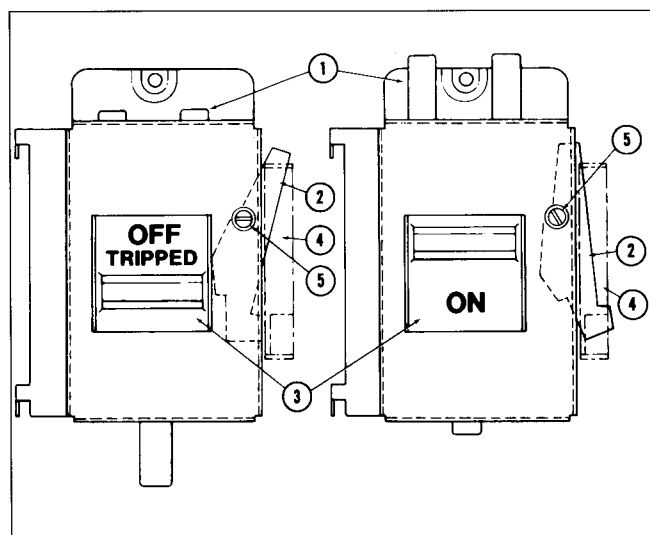
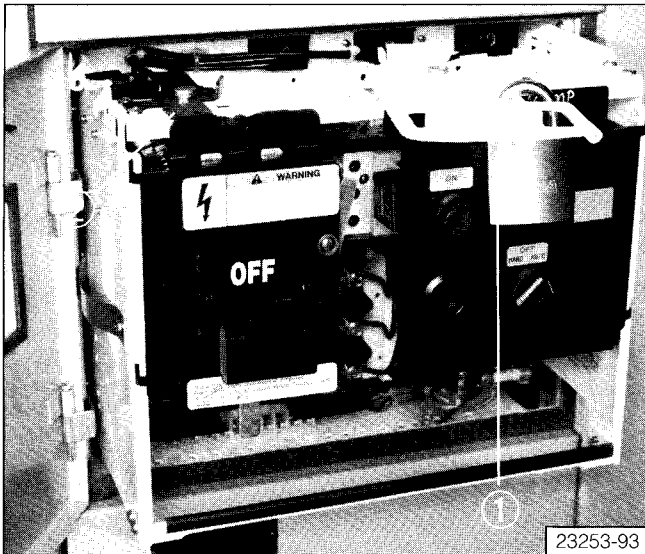

Figure 24: Linear Motion Operator Mechanism
Figure 25: Padlocking the Pan Brace Assembly
Operator mechanisms for circuit breakers through 125A and disconnect switches through 200A are hinged from the side of the unit and secured in place by a single captive screw. They may be swung open to access the protective device by loosening the captive screw a few turns to release it from the unit top brace. The linear motion Operator mechanism shown in **Figure 24** mounts directly to the face of the circuit disconnecting device and the plastic handle extends through the unit door to allow the device to be safely operated. The operator is provided with three mechanical safety interlocks to perform the following functions:
1. **Operator-Unit Interlock:** The operator-to-drawout unit interlock prevents withdrawal or insertion of the control unit with the handle in the "ON" position. When the handle is in the "ON" position, the operator driver (**Figure 24**, Item 1), extends into the racking handle assembly (**Figure 25**, Item 1). This also prevents movement of the latching mechanism (**Figure 25**, Item 2), locking the unit so that it may neither be inserted or withdrawn. When the handle is in the "OFF" position, the racking handle is free to move, thus allowing easy withdrawal and insertion of the drawout unit.
3. **Door-Operator Interlock:** The door-to-operator interlock prohibits closing or opening the control unit door except when the handle is in the "OFF" position. As the handle moves to the "ON" position, the interlock lever (**Figure 24**, Item 2) pivots behind the door mounted "J" shaped bracket thus preventing opening of the control unit door.
A provision is made for QUALIFIED PERSONS to defeat the door-operator interlock when the handle is in the "ON" position. This is accomplished by turning the defeater screw (**Figure 24**, Item 5) counterclockwise approximately 1/8 turn until the door is released. To reclose the door, gently hold the door closed while turning the defeater screw counterclockwise until the door is felt to close against the structure frame. Release the defeater screw and secure the 1/4 turn door fasteners.
1. With the protector in the "OFF" position, the latching mechanism (**Figure 25**, Item 2) fully extended, and the unit door open, defeat the interlock by pushing the top of the lever (**Figure 24**, Item 2) to the left and turn breaker "ON" and "OFF" several times. If the protector fails to turn "ON" or if excessive operating resistance is experienced, turn protector "OFF". Withdraw the unit and inspect for misalignment of the operator extension(s) or the driver (**Figure 24**, Item 1) and the racking handle assembly (**Figure 25**, Item 1). Make necessary adjustments to correct any misalignment.
2. With the drawout unit reinstalled in the motor control center, close and secure door. Turn protector "ON". If operating difficulty persists and protector fails to turn "ON", open unit door. Inspect the door mounted portion of the interlock assembly for damage or distortion. Inspect the interlock lever (**Figure 24**, Item 2) mounted on the right side of the operator for damage, freedom of movement, and its ability to rest firmly against the boss on the plastic handle without assistance. If damage or unusual wear are detected, all affected parts must be replaced.
3. If operating difficulty persists, unlatch the 1/4 turn fasteners and open the door, then slowly close it observing the point of contact between the interlock lever on the operator (**Figure 24**, Item 2) and the door mounted portion of the interlock. The ramp on the "J" shaped bracket mounted on the door should first engage the movable interlock lever on the operator at a point approximately 1/16" below the top right corner of the interlock lever. If the point of engagement does not occur at this point, gently bend the pointed extension of the door mounted portion up or down slightly to the proper position. Before making this adjustment, make sure the plastic handle is centered in the door cut-out when the door is closed.